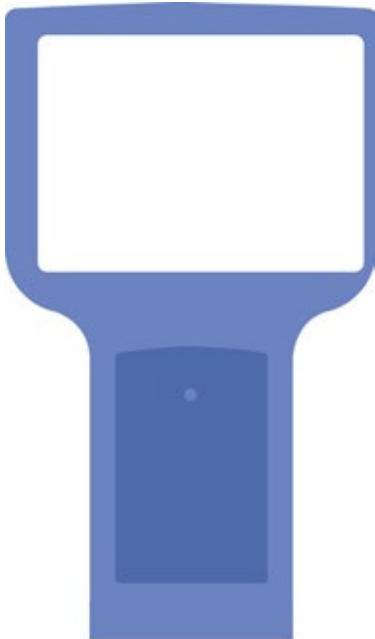

Figure 15. Front Plastic Cover #4 (Blue/Gray)
14. Locate the blue/gray plastic #4 and then place it on the front of the gray Center Plastic #3. See Figure 15.